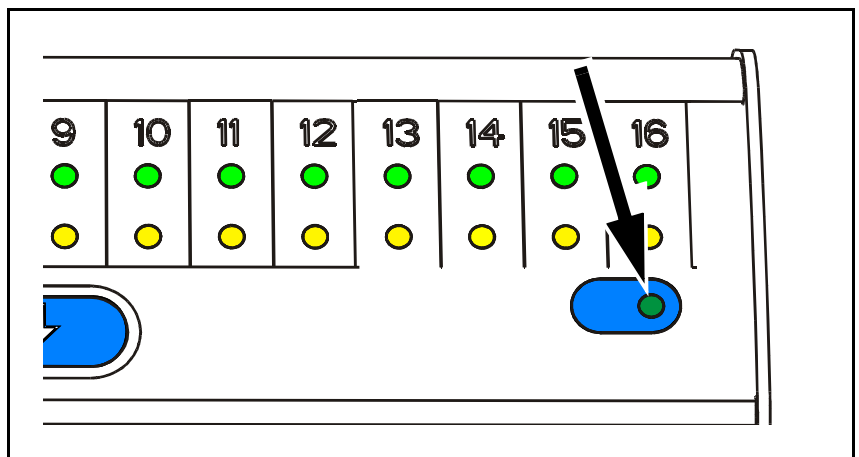

Figure 4-9. Agilis indication LED
2. Wait until the green indication LED in the bottom right corner is off, see Figure 4-9.